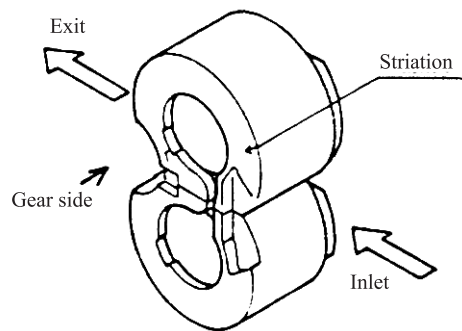

Fig.9-13
(2) Bushing inspection (See Fig.9-13 & 9-14)